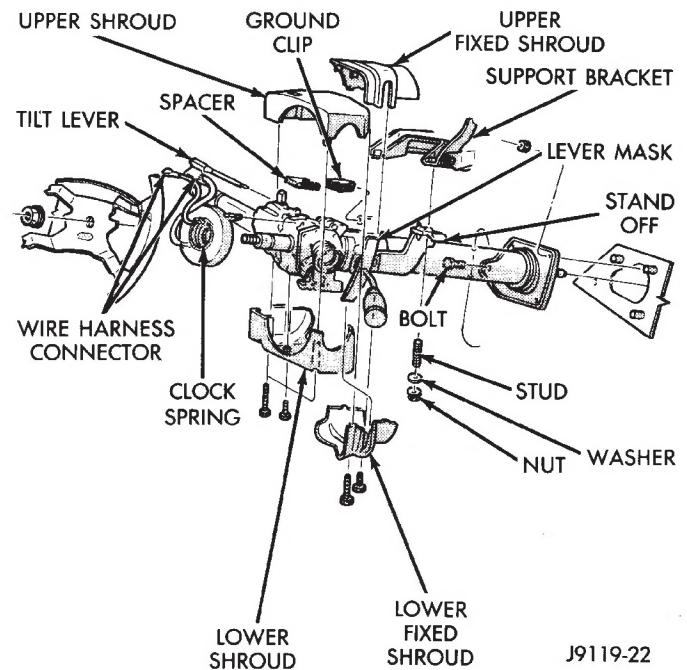
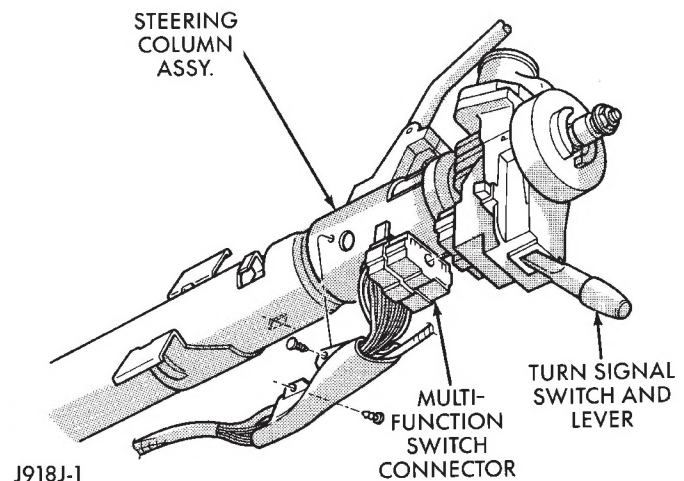

Fig. 2 Steering Column Shrouds
Fig. 3 Multi-function Switch Connector
- (3) Remove lower instrument panel/knee blocker.
- (4) Remove tilt lever.
- (5) Remove upper and lower column shrouds to gain access to the switch connector (Fig. 2).
- (6) Remove lower fixed column shroud.
- (7) Loosen steering column upper bracket nuts. Do not remove nuts.
- (8) Move upper fixed column shroud to gain access to rear of multi-function switch.
- (9) Remove switch connector (Fig. 3 and 4).